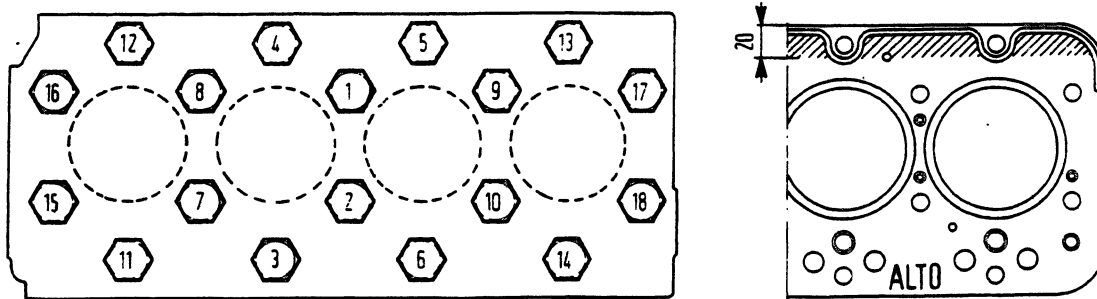

Fig. 13 - Cylinder head screws and nuts tightening sequence and detail of gasket.
- place gasket (adhesive type) on the block with the word "ALTO" (a, Fig. 13) contacting the cylinder head. Install head and tighten capscrews following the sequence indicated in the figure. Reach the specified torque in at least three stages, as indicated in the table below.
NOTE - Hatched area on the gasket (Fig. 13) within the dimensions in mm, indicates adhesive surface applied in production